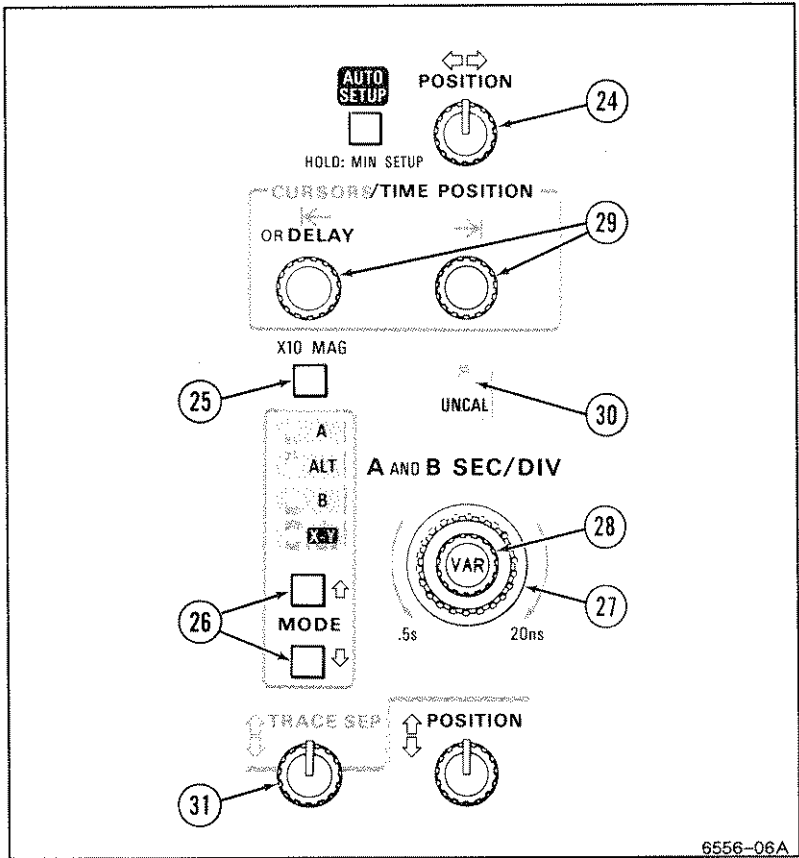

Figure 2-4. Horizontal controls and indicators.
Refer to Figure 2-4 for location of items 24 through 31.